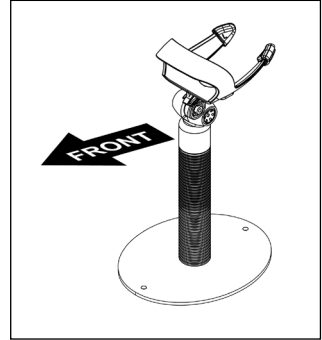

Figure 14.
2. When choosing the stand location, make sure to consider the front orientation of the stand (indicated in Figure 14).